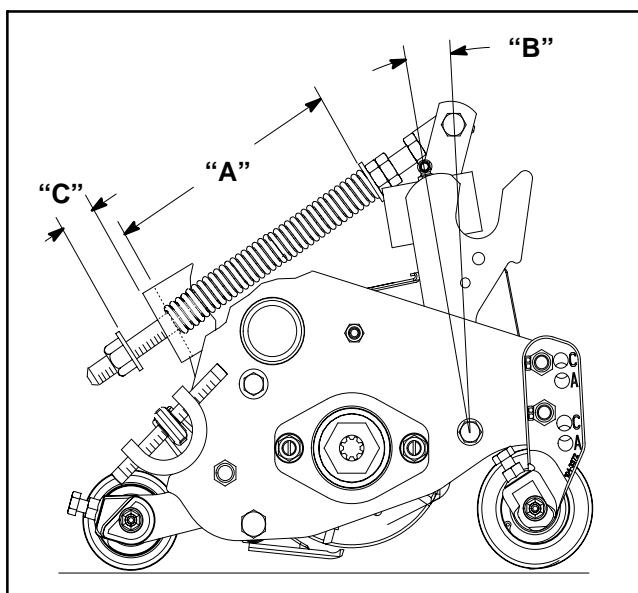

Figure 19
1. Tighten lock nut on rear of spring rod until the gap (C) between rear of spring bracket and front of washer is 1.25" (32 mm) (Fig. 19).
2. Tighten hex nuts on front end of spring rod until the compressed length (A) of spring is 6.25" (159 mm) (Fig. 19).